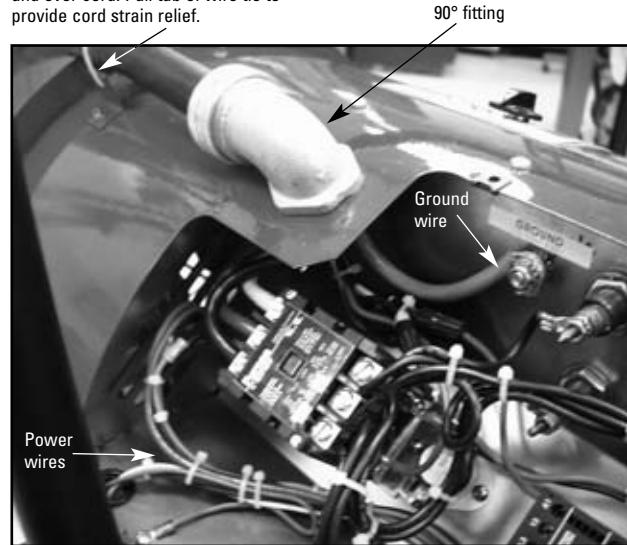

Figure 2
6. Attach cord assembly to heater as shown in Fig. 2 below: